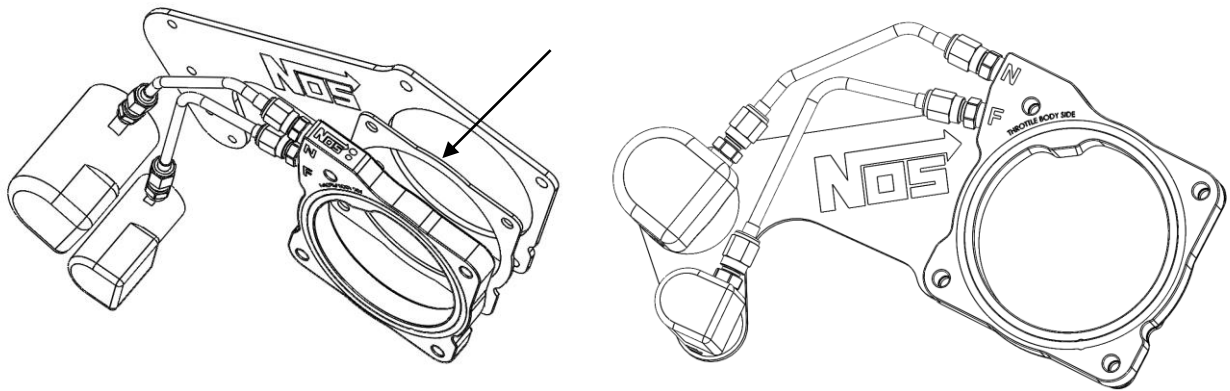

Figure 4
6. Assemble the nitrous and fuel supply lines onto the appropriate fittings with the desired jets installed as shown in Figure 4. (See Chapter 3, table 2 for suggested jetting). Make sure the O-ring side or the throttle body side is facing outward and be sure to install the supplied gasket between the solenoid bracket and the nitrous plate.
5. Attach the solenoids to the bracket as shown in **Figure 4**.